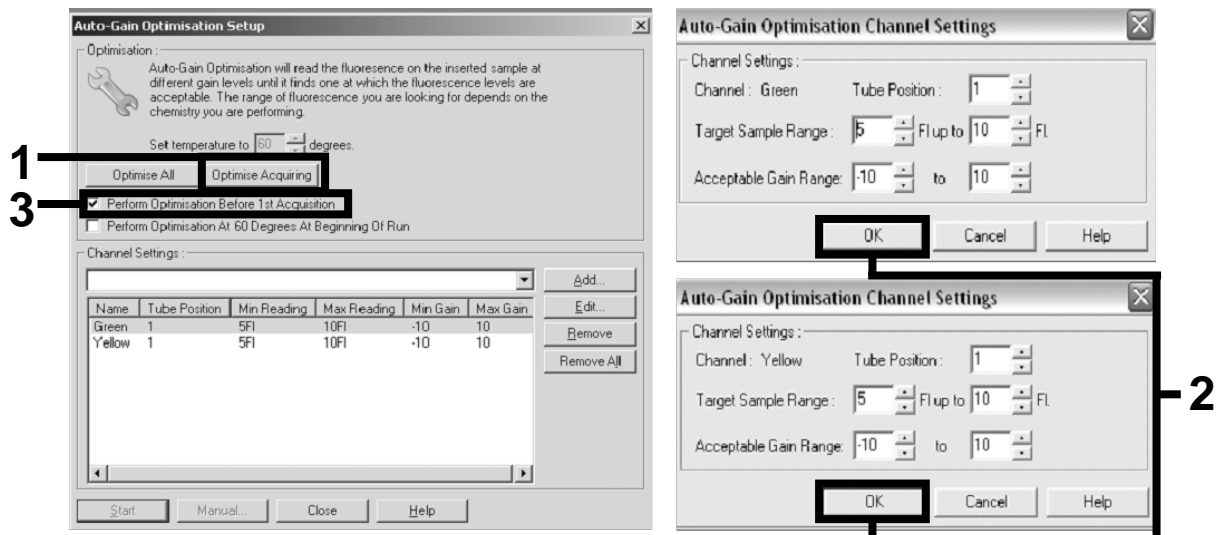

Figure 6. Adjusting the fluorescence channel sensitivity.
Adjusting the fluorescence channel sensitivity	Figure 6
14. The detection range of the fluorescence channels has to be determined according to the fluorescence intensities in the PCR tubes. Click "Gain Optimisation" in the "New Run Wizard" dialog box to open the "Auto-Gain Optimisation Setup" dialog box. Click "Optimise Acquiring" (Figure 6), and then click "OK" in the "Auto-Gain Optimisation Channel Settings" dialog boxes for each channel (Green and Yellow, Figure 6). Make sure that the "Perform Optimisation Before 1st Acquisition" box is checked for each channel (Figure 6).